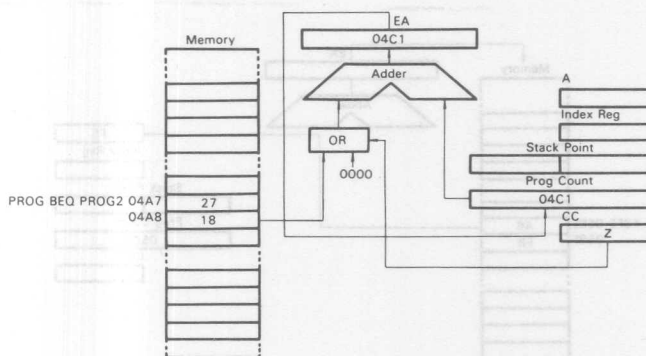

Figure 32 Example of Relative Addressing
See Fig. 32. The relative addressing mode is used with branch instructions only. When a branch occurs, the program counter is loaded with the contents of the byte following the operation code. $EA = (PC) + 2 + Rel.$, where Rel. indicates a signed 8-bit data following the operation code. If no branch occurs, Rel. = 0. When a branch occurs, the program jumps to any byte in the range +129 to -127. A branch instruction requires a length of 2 bytes.